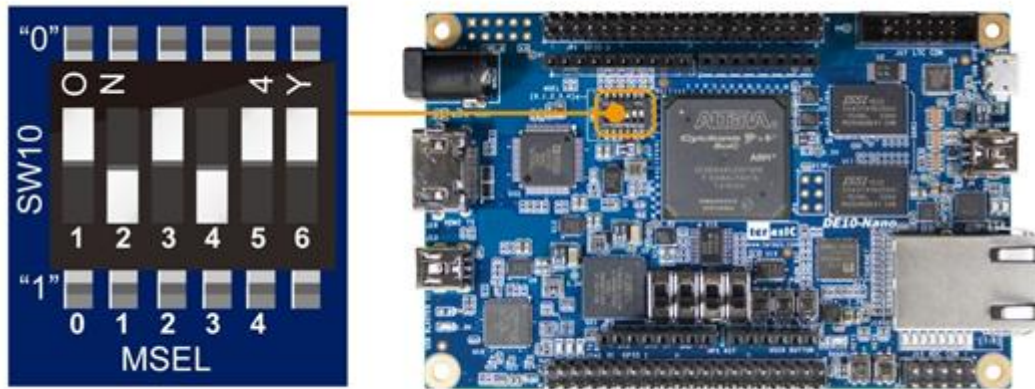

Figure 7-3 Set MSEL[4:0] to "01010" for ARM Version Mode
- As shown in **Figure 7-2**, insert the Micro SD card into the robot. And set the mode switch(SW10) MSEL[4:0] to "01010", as shown in **Figure 7-3**.